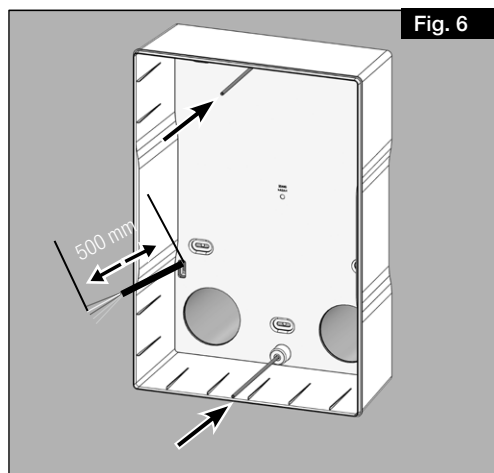

Fig. 6
The connection cable must protrude 500 mm towards the internal side of the wall (see Fig. 6)! The exact cable length must be adjusted during the installation of the unit.
1. Screw two threaded rods into the surface-mounted housing (see Fig. 6).